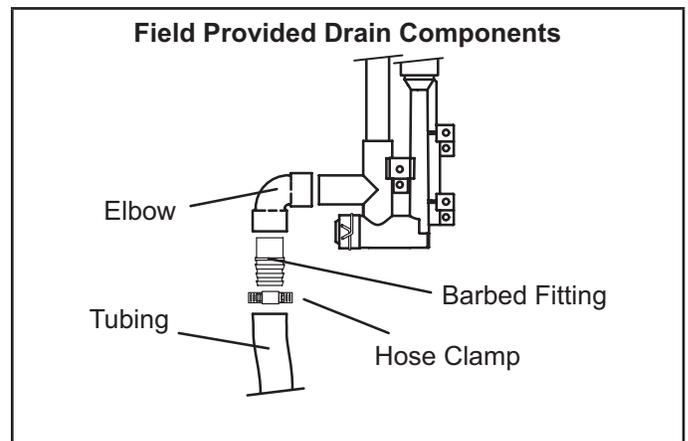

FIGURE 49
**NOTE** - Appropriately sized tubing and barbed fitting may be used for condensate drain. Attach to the drain on the trap using a hose clamp. See figure 49.